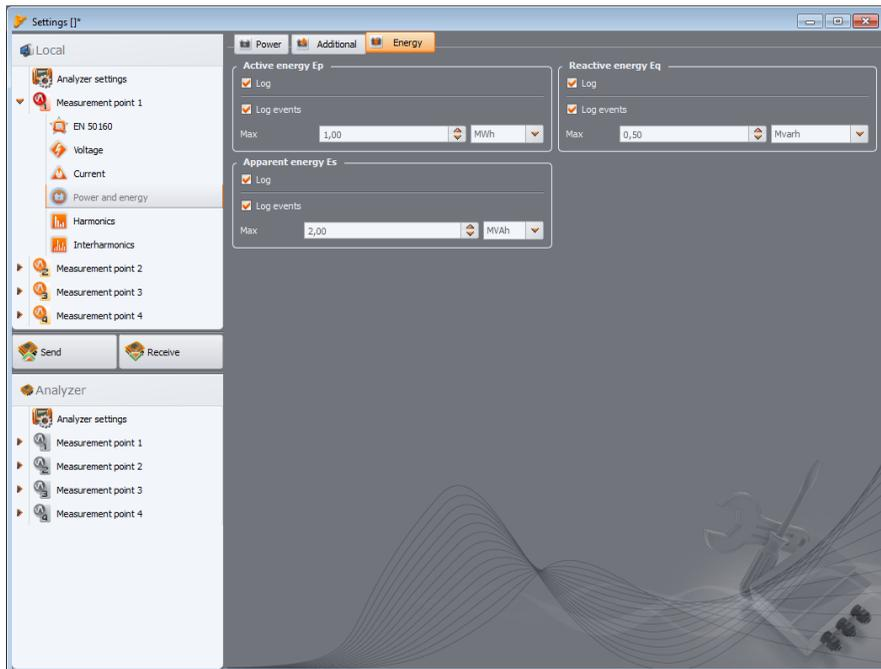

Fig. 25. Power and energy – Energy tab.
**ENERGY** tab is shown in Fig. 25. Apart from the option of enabling the recording process of energy values with a defined averaging period, the user may also define event detection when energy exceeds a given threshold. The setting ranges are as follows: